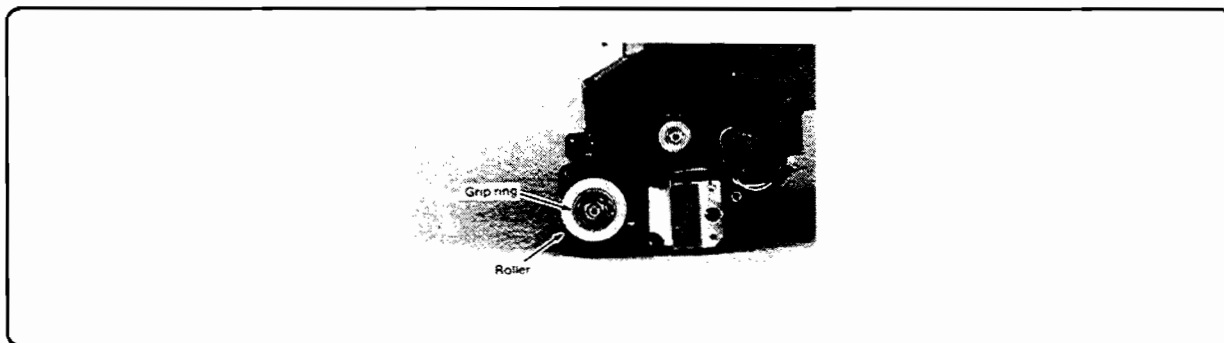

Figure 6-65. Developer Front Grip Ring and Roller Removal
9. Remove the front grip ring and detach the roller (Figure 6-65).